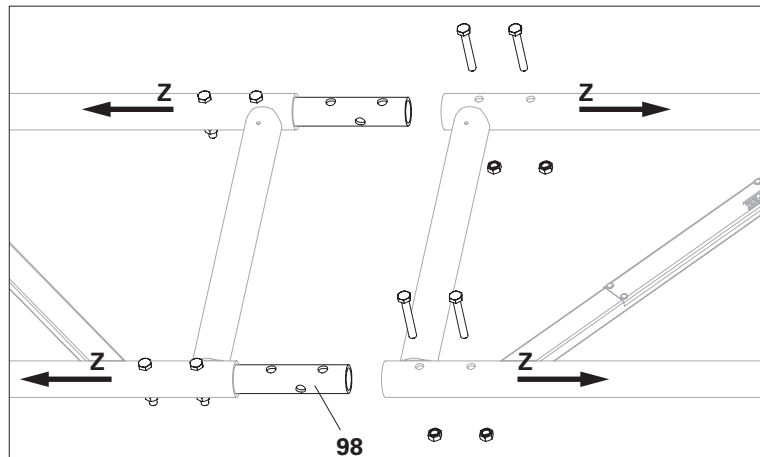

Fig. A11.12a
1. Insert two Connectors ULT (98) into formwork girders and mount each with 2 screws M10 x 70-8.8 with nut.
2. Fit the second formwork girder onto the Connectors ULT and mount each with 2 screws M10 x 70-8.8 with nut. (Fig. A11.12a)